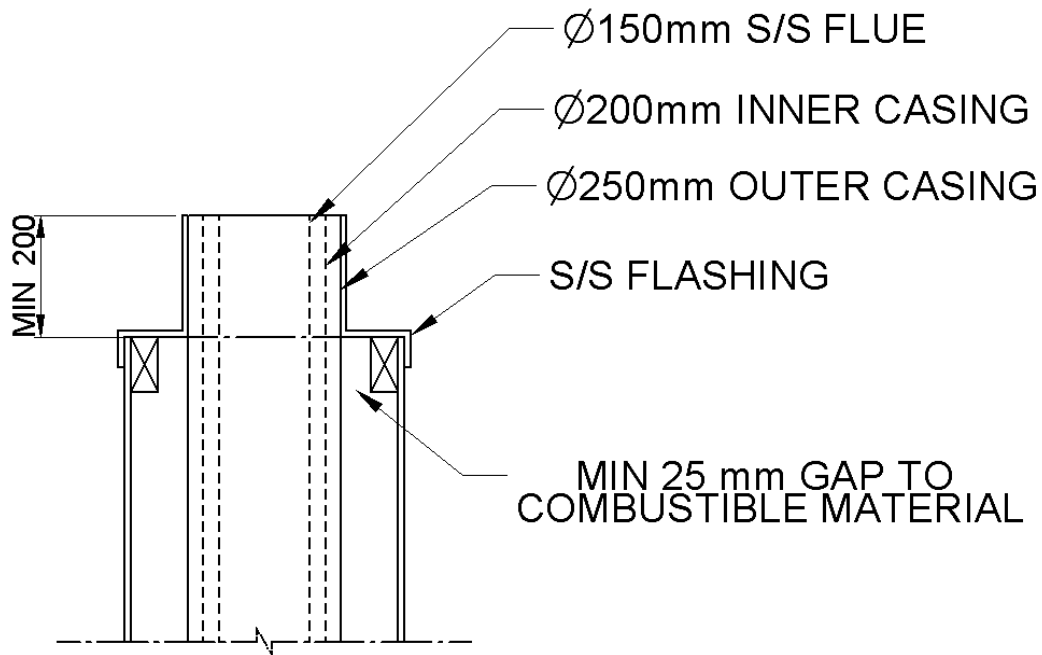

Fig. 8
19. Lower the assembled **flue** and **seal and fix it to the flue socket** of the heater. Use stainless steel screws. Lower the inner flue casing and engage it with the special adaptor spigot ring, repeat this step with the outer flue casing. See Fig. 8 & 9 for flue and casing lengths.